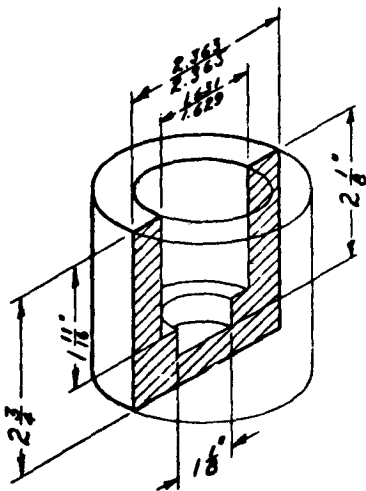

FIG. 6: SHACKLE PIN DRIVER (T179-218)
4. Place the driver tool (part no. T179-218 - See Fig. 6) over the Shackle Pin end with the lock plate dog and drive the Pin into the bore until the Threaded Bushing is centered.